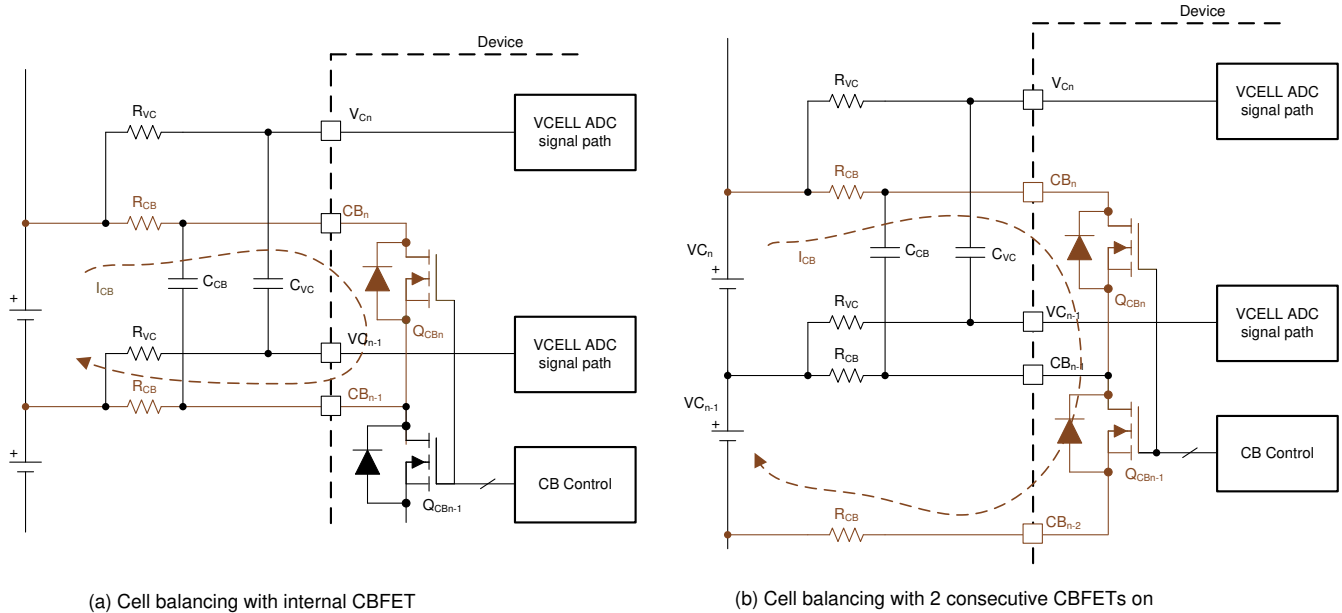

图 9-13. Internal Cell Balancing and the Flow of Balancing Current
- Balancing with no consecutive CBFET on (图 9-13 (a)): $I_{CB} = V_{Cell} / ((2 \times R_{CB}) + R_{dson_{QCB}})$
- Balancing with two consecutive CBFETs on (图 9-13 (b)): $I_{CB} = (\text{Sum of two } V_{CELL}) / ((2 \times R_{CB}) + R_{dson_{QCBn}} + R_{dson_{(QCBn-1)}})$
- Manual balancing control ([AUTO_BAL] = 0): With this method, the device will turn on the CBFETs that have non-zero balancing timer settings once [BAL_GO] = 1 is received. There is no odd and even channel switching during the cell balancing and the BAL_CTRL1[DUTY2:0] setting does not apply under this control. Host MCU can enable two consecutive CBFETs with this method and a maximum of eight CBFETs can be enabled. When two consecutive CBFETs are enabled with both channels connected to battery cells, the balancing current is significantly different compared to no adjacent CBFET being on (图 9-13). The DEV_CONF[NO_ADJ_CB] bit is provided to avoid inadvertent enabling of an adjacent CBFET for a system that is not intended to have an adjacent channel on for balancing. In this control method, the device is relying on the MCU to enable the proper channels. If the MCU sends [BAL_GO] = 1 but the CBFETs are enabled with an invalid condition, the device will not start balancing and will set BAL_STAT[INVALID_CBCONF] = 1. Invalid configurations are either: